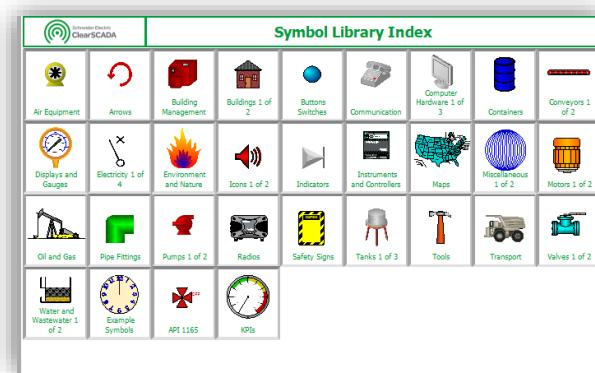

Figure 39. Symbol Library Index to find pump.
- On **Symbol Library Index** mimic (Figure 39)>click **Pumps** group.